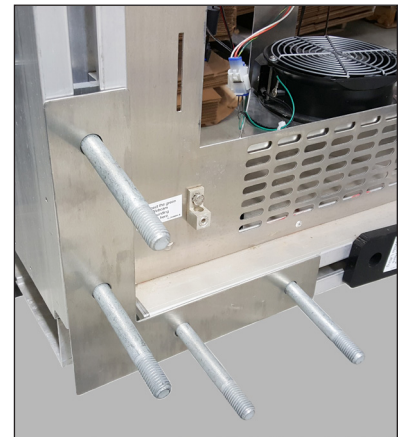

Figure 26: Webcam Bolting Template
5. Place the bolting template over the bolts in the channel. The bolting template is important as it makes mounting the arm assembly easier. Refer to **Figure 26**.